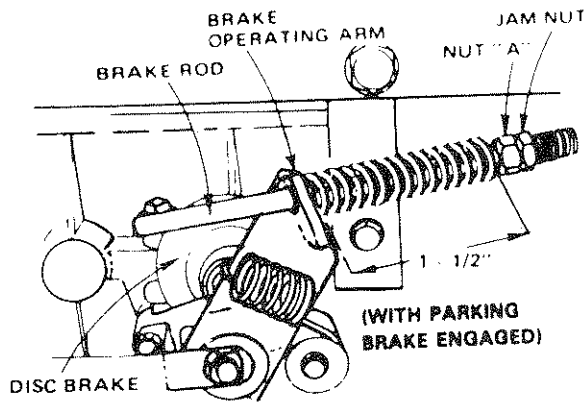

FIGURE 10
This tractor is equipped with an adjustable brake system mounted on the right side of the transaxle (Fig. 10).
- If distance is other than 1-1/2", loosen jam "A" nut (Fig. 10) and turn nut until distance becomes 1-1/2". Retighten jam nut against nut "A".